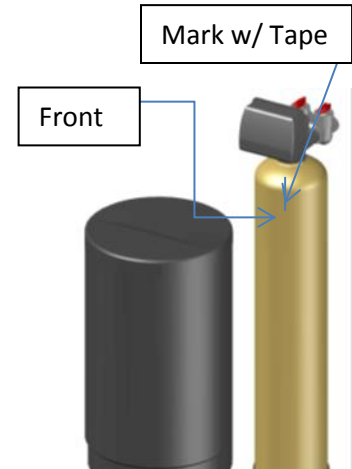

Figure 7: Front of tank
- d. Mark the “front” of each resin tank (shown in Figure 7) with either a marker or tape. The front of the resin tank is determined by the location of the face of the control valve once it has been secured to the face of the control valve. Make sure that the system is positioned in a way that the plumbing can be installed.